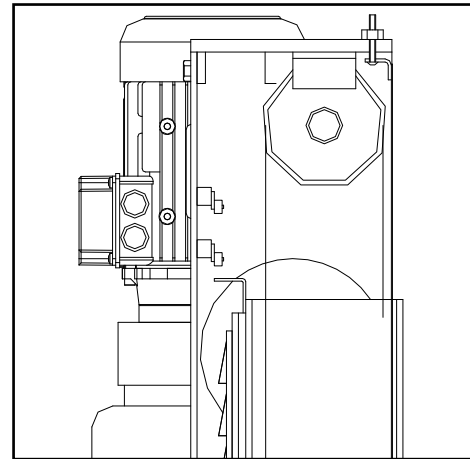

Fig. 13
- ◆ If the lift reaches to the maximum height, the up limit switch will stop the lifting. (**Fig.13**)
- ◆ If the moving part exceed its travel distance, on the upper part of the command post there is two limit switches connected in series and are usually set working by the “actuator” (**Fig. 13**) on the command side carriage. If the first limit switch did not work, the second one would trip after 3sec of carriage run.